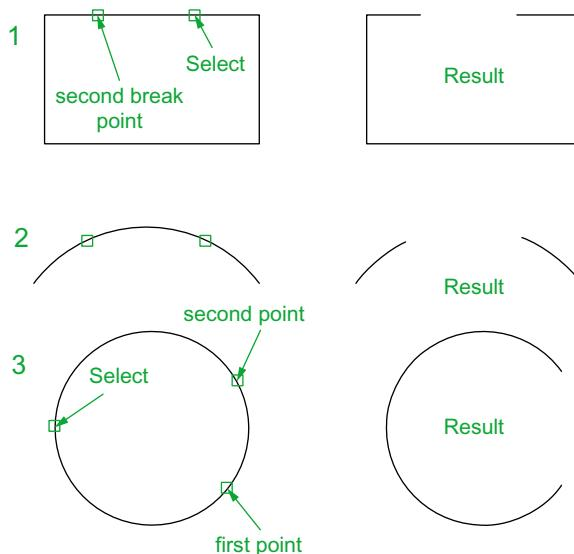

Fig. 5.36 Examples – Break
The Break tool**Examples – Break (Fig. 5.36)**
1. Construct the rectangle, arc and circle (Fig. 5.36).
The results are shown in Fig. 5.36.